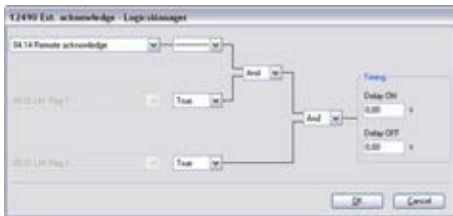

Fig. 161: LogicsManager function "Ext. acknowledge"
3. ➤ Configure the LogicsManager function "Ext. acknowledge" as shown in (Fig. 161).